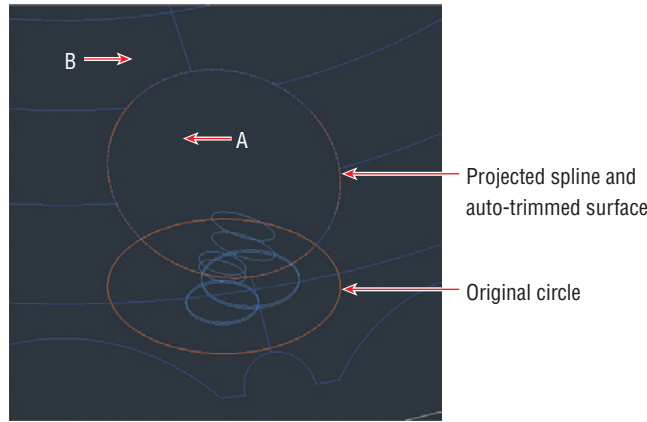

FIGURE 17.10 Projecting the ventilation tower cutout upward onto the dome membrane's surface
Select the blue dome membrane. A new orange spline appears on the surface of the trimmed dome (see Figure 17.10) and the PROJECTGEOMETRY command ends.
7. Type **E** (for Erase), and press Enter. Click points A and B in Figure 17.10 to create a crossing window that selects both the dome and the projected spline.